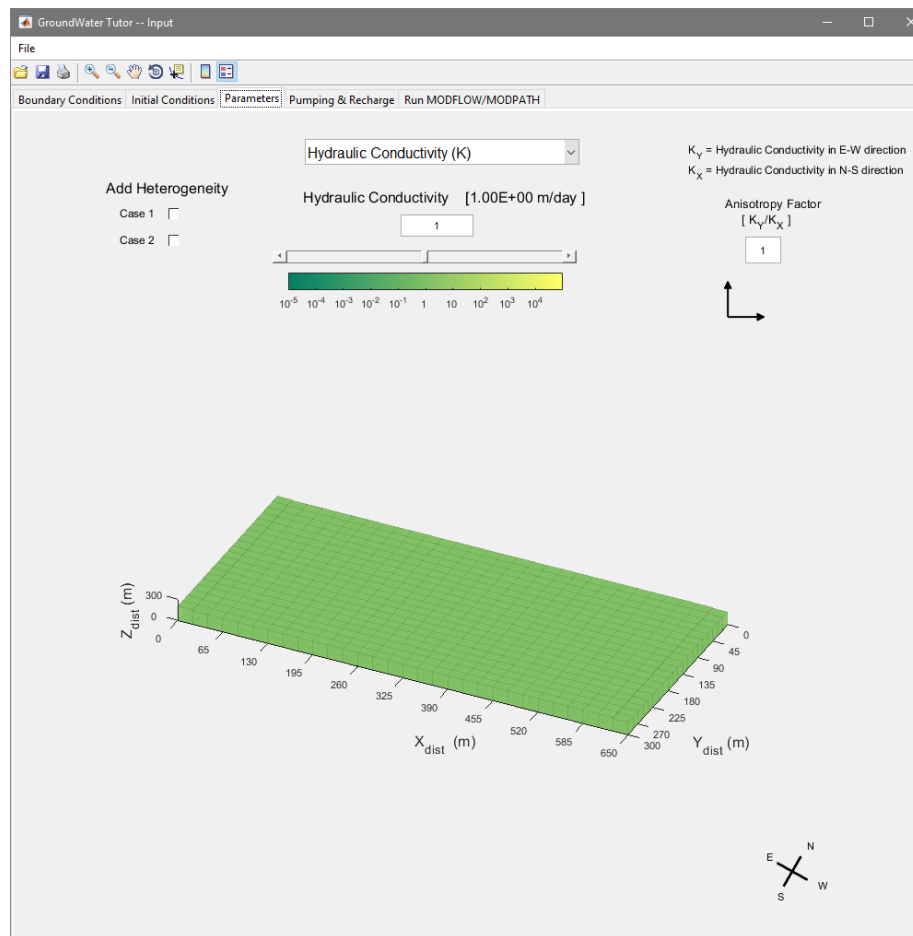

Figure 4 Parameters tab of the GroundWaterTutor Input Window.
As you click the tabs the images of the system appear. Zoom, pan and rotate any model image using the toolbar right above the tabs. The controlling icons are shown in Figure 4.
- **Initial Conditions** – See Figure 4. All models (groundwater or otherwise) of systems that change with time require initial conditions to be specified. If no change in time is simulated (that is, the system is steady-state), the initial conditions form the first guess from which the steady-state solution is calculated. GroundWaterTutor starts with a steady-state solution, followed by solution that changes over time. The distribution of hydraulic heads (i.e., our dependent variable, or state variable) defined in the Initial Conditions tab is used as the initial guess of the steady-state solution. A good choice is to make the initial guess close to what a realistic solution, but it also does not have to be physically plausible. For example, the abrupt changes in head at the constant-head boundaries in Figure 1 is not plausible, but the head level defined throughout the system is between the two values of constant head, which make it easy for the model to adjust the heads to create a valid solution.
Parameters – See **Figure 4**. The material properties of the aquifer are hydraulic conductivity, porosity, specific storage and specific yield. Values can be changed by the user. Simple cases of hydraulic conductivity heterogeneity and anisotropy can be introduced.